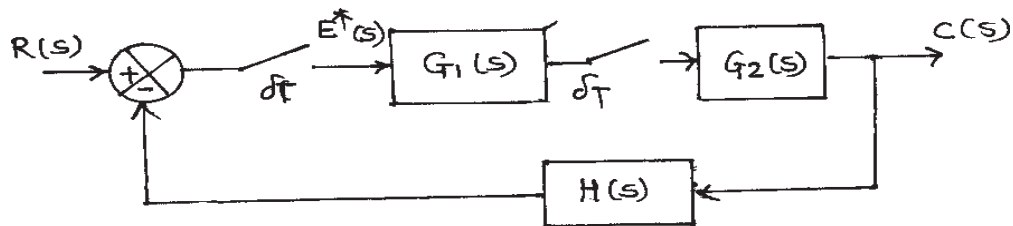

Fig. 1
- Q1) a)** Derive a mathematical model of ZOH. Derive the pulse transfer function of the closed loop control system shown by Fig. 1 [8]